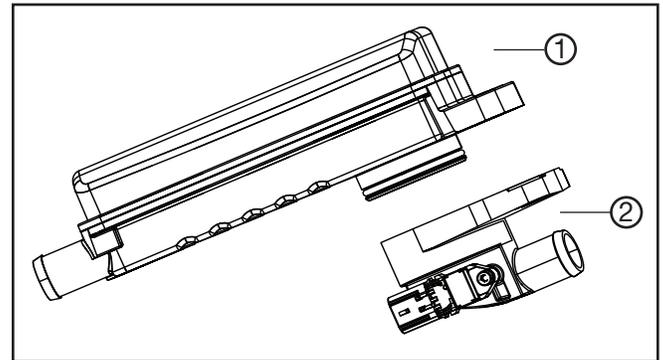

Figure 4: Step 1 of installation showing the inlet port (2) and the filter (1)
1. Assemble the CV filter by pressing the inlet port (2) to the filter (1) as shown in Figure 4. Push until the part fits. Ensure the mounting holes of parts (1) and (2) match (skip if the filter is already assembled).